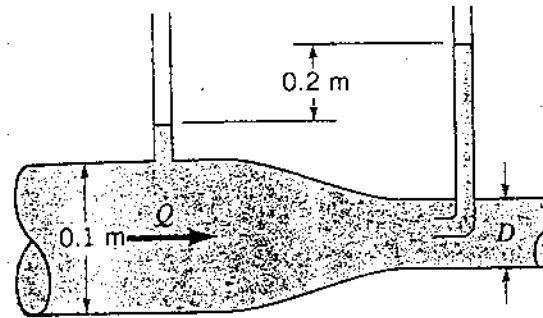

Fig.2
2. Water flows through the pipe contraction shown in Fig. 2. For the given 0.2-m difference in the manometer level, determine the flowrate as a function of the diameter of the small pipe, D . (10%)